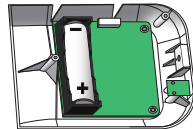

Fig. 15
- Insert one 18650 Lithium-Ion battery, observing correct polarity. (Figure 15)